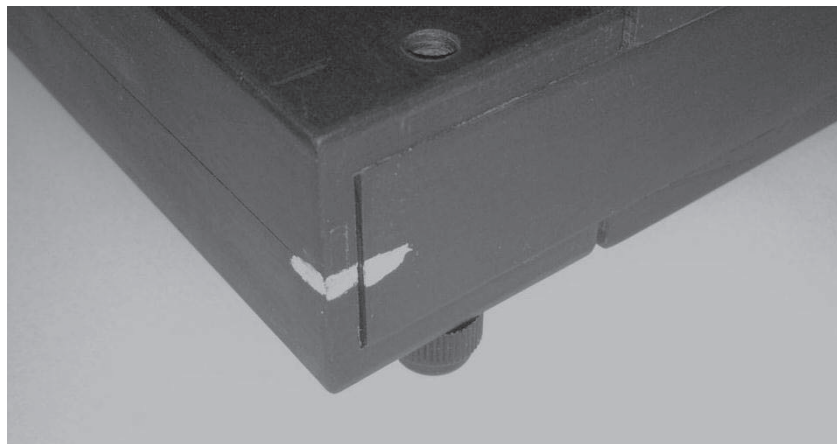

Figure 7: Hash Marks on Split Core CT
- The hash marks on the two pieces of a split core CT must align as shown in figure 7.